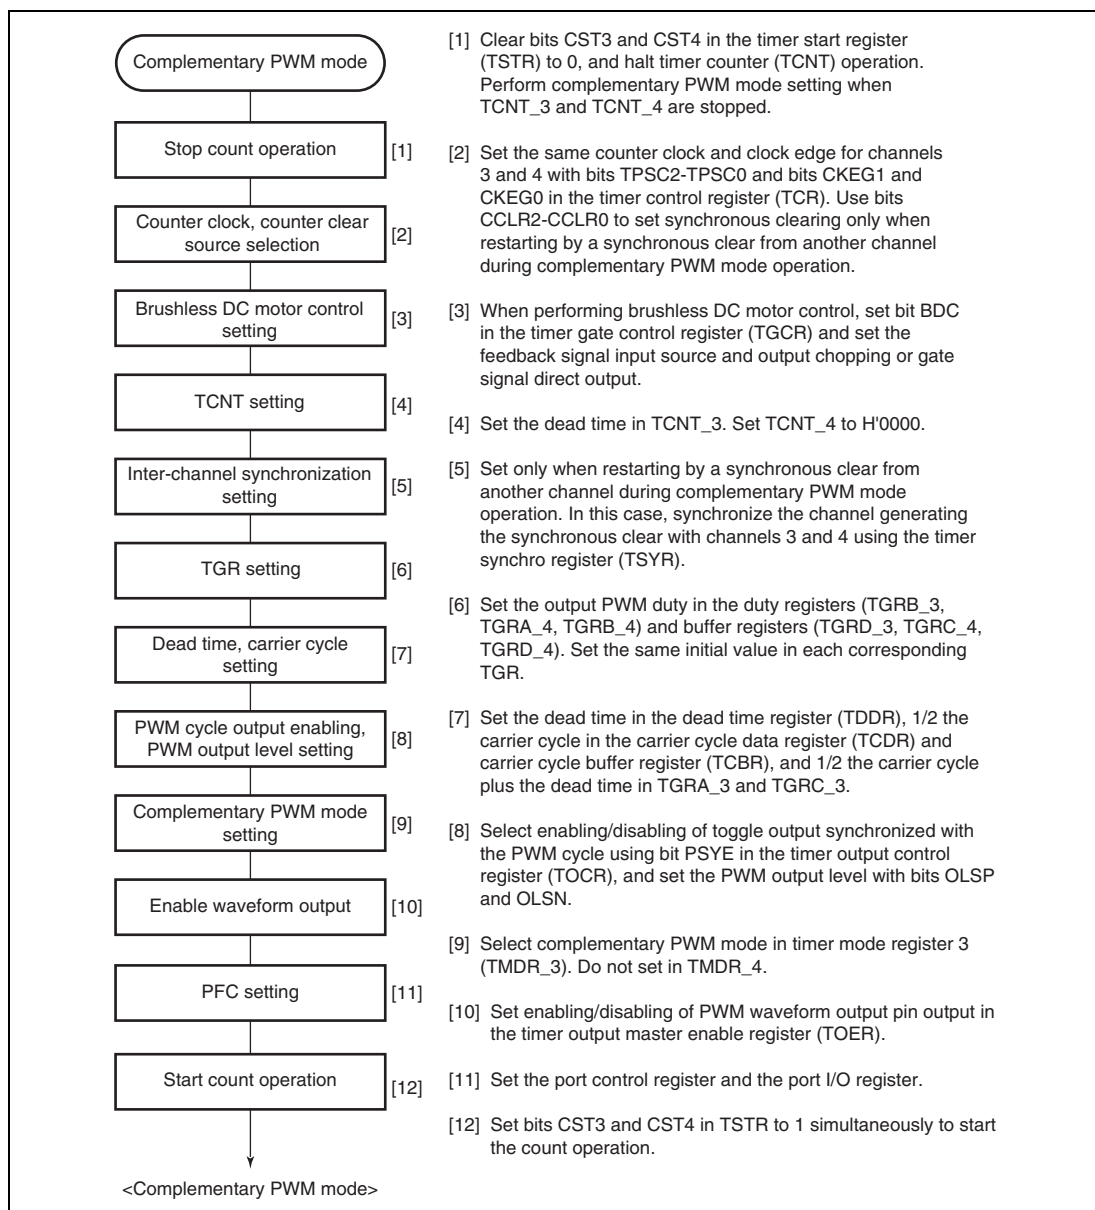

**Figure 11.33 Example of Complementary PWM Mode Setting Procedure**
**Example of Complementary PWM Mode Setting Procedure:** An example of the complementary PWM mode setting procedure is shown in figure 11.33.